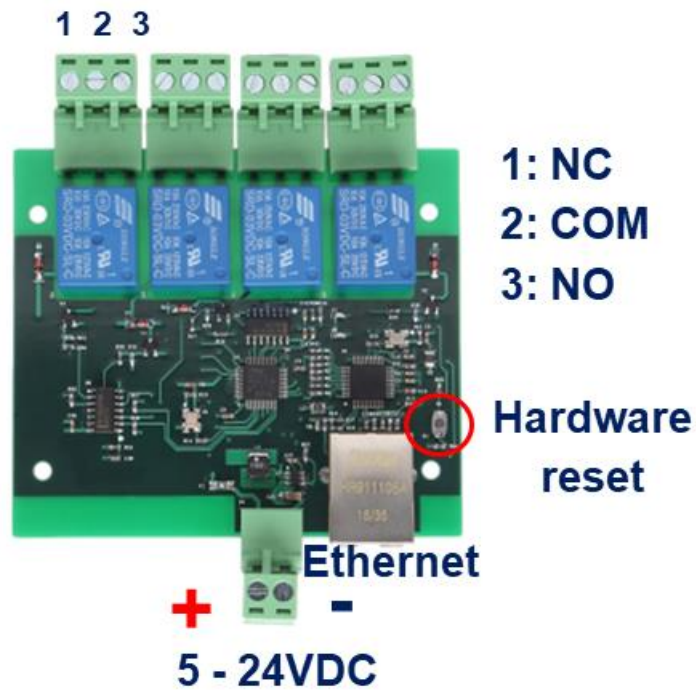

Fig. 1.1
1. Connect BEM104 with your routers or computer via a standard Ethernet cable. And then power it on with 5 - 24VDC power supply. (see **fig.1.1 at page 2**)
1. Connect BEM module with your routers or computer by Ethernet cable, and then power it on with 5 - 24VDC power supply. (see **fig.1.1 at page 2**)